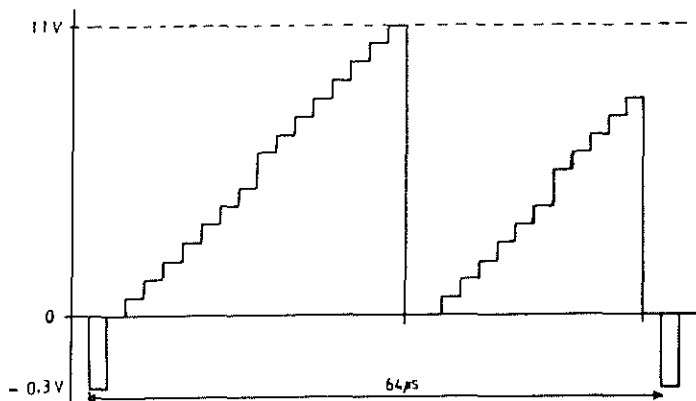

Figure 4.1 : The generated test-pattern.
- (1) Output gain
- Measure a staircase pattern like the one in fig. 4.1.